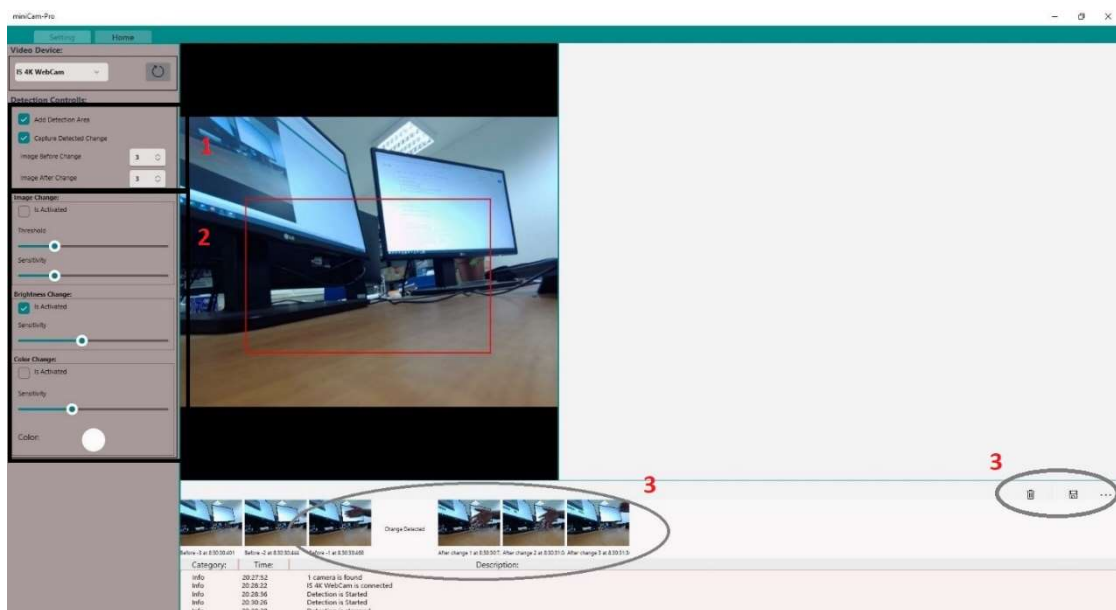
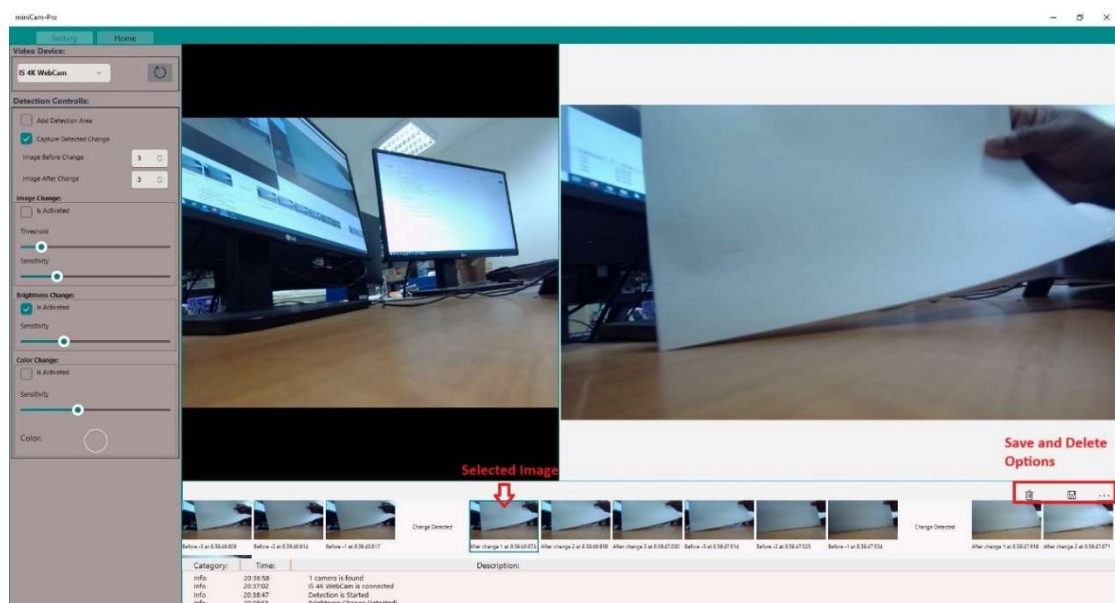

Figure 10: miniCam-Pro detection area brightness changed
Figure 11: miniCam-Pro change detection before and after, individual images can be saved and deleted
1. Change in detection area: During camera operation, if you want to detect changes in a specific area, you can tick the “Add Detection Area” checkbox and mark out the area in which changes should be detected (mouse movement by pressed left button). Then you can check the box “Capture Detected Change” to start documenting the detections as well as capturing before and after pictures. If you want to detect changes in the entire picture uncheck the “Add Detection Area” checkbox (see Figure 11). Figure 10 shows an example where the detection area is selected (Red rectangle is drawn by the software). The change is detected based on brightness change of the detection area. If you look at the The grey oval area, you can see that a hand is entering into the detection area which changes the brightness. This has been detected by the software and shown below are images before and after the change. The number of these can be customized by changing the respective values in the textboxes below the checkboxes.